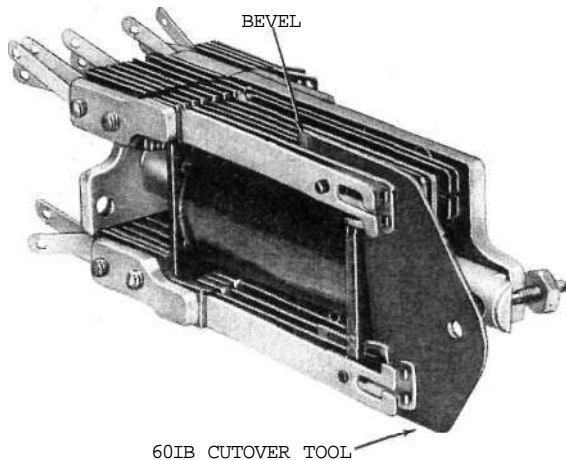

Fig. 38—Blocking U676 and U680 Relays for Cutover Purposes
4.04 U676 and U680 Relays: Fig. 38—Using the 601B Cutover tool, block open the contacts controlling the circuit through the line relay. With the beveled side of the legs of the tool facing away from the armature, insert the tool as far as it will go between the stud, controlling the operation of the spring to be blocked open and the adjacent contact or buffer spring. On U676 relays, insert the tool between contact springs 2 and 3 (top) and contact spring 2 and buffer spring (bottom). On U680 relays, insert the tool between contact springs 2 and 3 (top) and contact spring 4 and buffer spring (bottom).